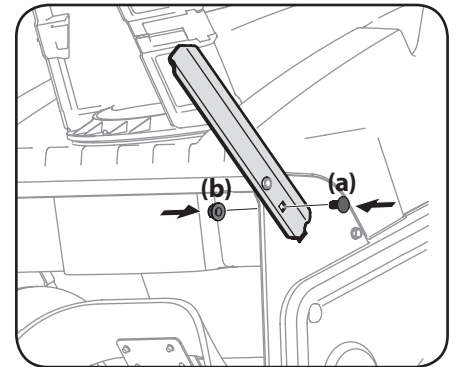

Figure 2-16
2. Install the drift cutters and secure with the carriage bolts (a) and flange lock nuts (b) removed in Step 1. See Figure 2-16.